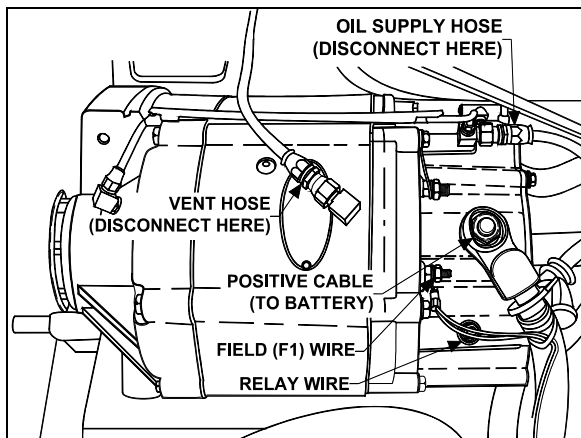
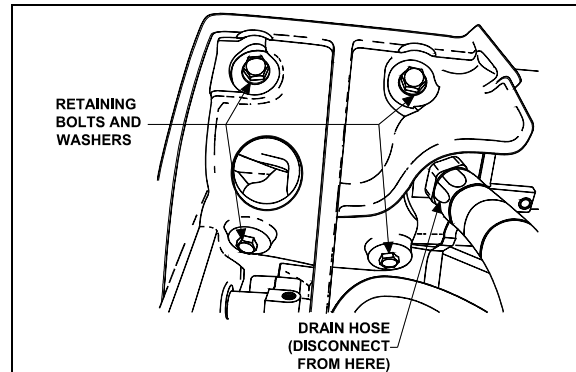

FIGURE 37: ALTERNATOR (HOSES AND WIRES) 06341
FIGURE 38: ALTERNATOR RETAINING BOLTS AND WASHERS 06350
4. Scratch off protective sealer from electrical connections (relay, field and positive terminals). Refer to figure 37.
5. Disconnect wire #25 from the relay terminal, wire #107 from the field "F1" terminal and disconnect battery cable from the positive "+" terminal on the diode end cover. Tag wires removed to ease identification at time of installation. Refer to figure 37.
6. Disconnect oil supply line and vent hose from top of alternator (Fig. 37) and tape lines to prevent entry of foreign matter. Disconnect oil drain hose from bottom of alternator (Fig. 38) and tape line to prevent entry of foreign matter.
7. Remove the four bolts and lock washers fixing the alternator (refer to fig. 38).